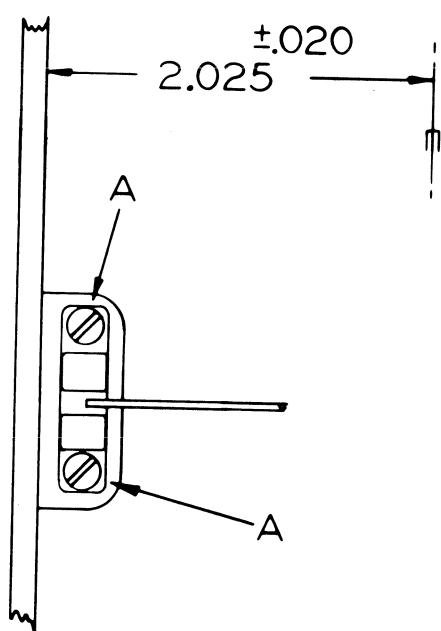

FIGURE 7-11
- (2) Use a graduated rule to measure the distance between the axis of the printhead and the left chassis side plate, as shown in Figure 7-11. Visual accuracy is acceptable. The adjustment should be correct within ±0.020".
- (3) If the dimension observed is not within the specified tolerance, loosen the two retaining screws that hold the sensor unit in place.
- (4) Re-position the sensor to correct for the observed error, and tighten the two retaining screws.
- (5) Repeat Steps #1 through #4, until the proper geometry is obtained. This completes the adjustment of the optical stop.